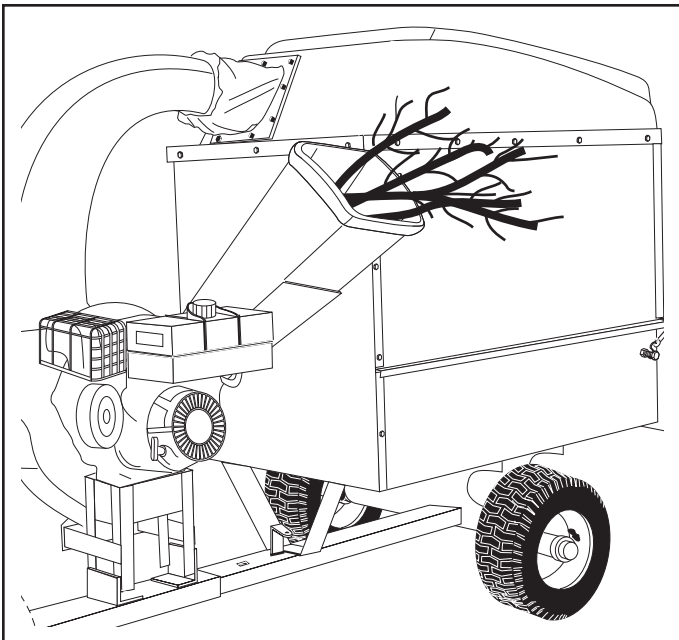

FIGURE 29
- Material such as stalks or heavy branches up to 3" in diameter may be fed into the chipper chute as shown in figure 29.